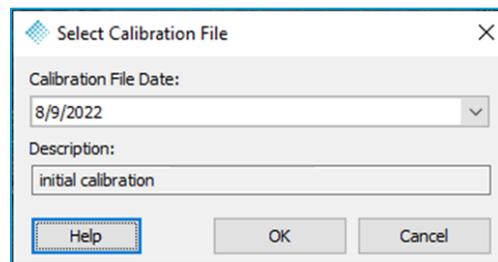

Figure 72 - Calibration File Picker
2. **Manually Select Calibration File** – This choice will invoke a dialog that allows you to select a file from all available calibration files for this sensor from Reckon. If you select this choice, the Calibration File Picker dialog (Figure 72) will be displayed when you press the Create Trajectories button at the bottom of the Create TrueView Trajectories dialog. You can pick the calibration file you desire using the dropdown picker.